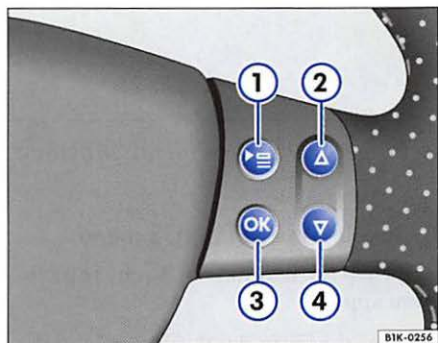

Fig. 10 Multifunction steering wheel: right side
- Press the button ⇒ fig. 10 ① on the multi-function steering wheel until the **SETTINGS** menu is displayed.
- Press the arrow keys ② or ④ to highlight the menu item **Winter tires**. The highlighted menu item is between the two horizontal lines. There is also a triangle on the right ◀.
- Press the button ③. The **Winter tires** menu opens.